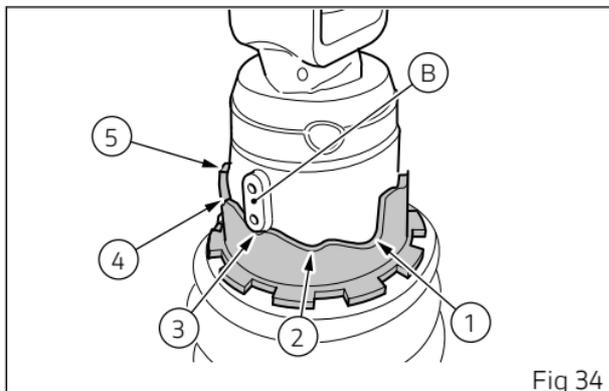

Fig 34
Standard setting is the one for which reference notch (B) on shock absorber is aligned with ring nut third cam: position indicated in the figure (Fig 34).